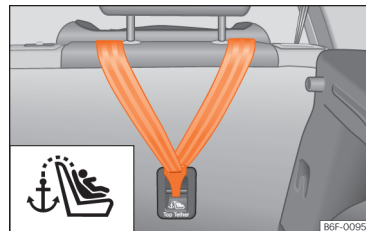
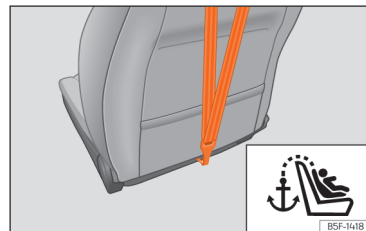

Fig. 49 Rear part of the rear seats: securing rings for the Top Tether strap.
Fig. 50 Rear of front passenger seat backrest: Top Tether strap anchor.
- Slide the strap and secure it properly with the anchor on the rear seat backrest >>> Fig. 49 , >>> Fig. 50.